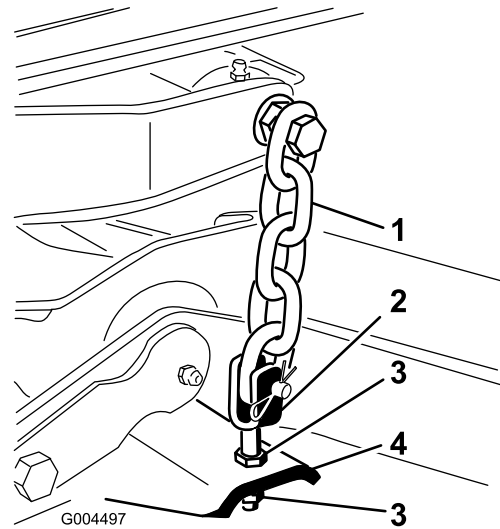

Figure 75
- Adjust the jam nuts securing the rear deck yokes/chains to raise the rear of the deck so that the blade pitch is set to 8 mm (5/16 inch) (Figure 75).